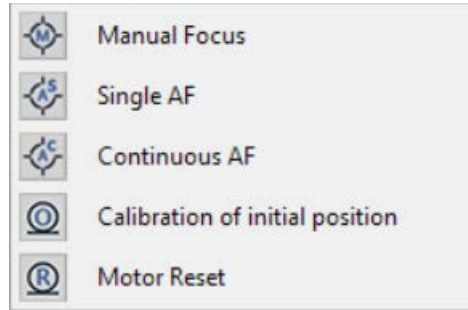

Fig 3-6 Focus Menu
- (1) Focus Menu : There are 3 focus modes and 2 motor reset functions. See Fig 3-6. Focus modes: Manual focus, Single AF, and Continuous AF. Single AF only focus one time, Continuous AF will re-focus when the image is blurry, stop until image is clear. Calibration of initial position is to let motor position return to 0 position, and Motor Reset is to run motor one time and stop at the start position.